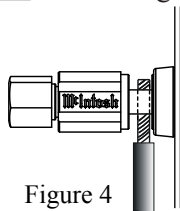

Figure 4
8. Connect the Loudspeaker hookup cables to the MC1502 Negative Output Terminal (-) and Positive Output (+) Terminal indentified as 2Ω (ohms), 4Ω (ohms) or 8Ω (ohms) connection to match the impedance of the Loudspeaker, being careful to observe the correct polarities. Insert the spade lug connector or prepared section of the cable end into the terminal side access hole, and tighten the terminal cap until the cable is firmly clamped into the terminals so the lugs or wire cannot slip out. **Do not over tighten.** Refer to figures 4, 5 and figure E.